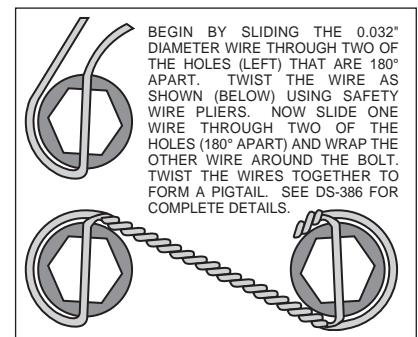

Figure 3. Safety Wire Diagram
- Position the caliper mounting bracket (1) on the spindle. **NOTE:** Be sure the heads of the caliper bracket (1) insert nuts are facing outward toward the wheel. Place one lock washer (2) on each of the three caliper bracket bolts (3). Mount bracket to the dust plate face of the spindle and align the three 3/8-16 holes in the spindle with the corresponding holes in the bracket (1). Apply red *Loctite*® 271 to all three bolt threads (3) and install. Torque bolts (3) to 260 **in-lb**.
- Install wheel studs (4) into the hub (5). Torque to 77 ft-lb. **NOTE:** There are two lug patterns of five holes each in the hub (5 x 4.50 and 5 x 4.75). Make sure of the correct hole pattern for the wheel application before installing the studs into the hub.
- Attach rotor adapter plate (8) to rotor (9) using bolts (10). Torque bolts (10) to 180 **in-lb**. Safety wire bolts (10) using standard 0.032 inch diameter stainless steel safety wire as shown in Figure 3. Please refer to Wilwood's data sheet DS-386 (available at www.wilwood.com/pdf/ds386.pdf) for complete safety wire installation instructions. **NOTE:** Dished side of adapter plate (8) should face hub (5). The mounting tabs on the rotor (9) should face toward the hub as well and line up with the holes on the adapter plate (8).
- Mount the adapter/rotor assembly (8 and 9) to the hub (5) using bolts (11). Torque bolts (11) to 22 ft-lb. Safety wire bolts (11).
- Pack the large inner bearing cone (6) with high temperature disc brake bearing grease (available from your local auto parts store) and install into the backside of the hub (5).
- Install the grease seal (7) by pressing into the backside of the hub (5).
- Pack the small outer bearing cone (12) with high temperature disc brake bearing grease and install into front of hub (5). Slide the hub assembly (5, 6, 7 and 9) with outer bearing cone (12) onto the spindle. Secure using spindle washer (13), stock adjusting nut and nut locking device. Adjust bearings per Original Equipment Manufacturer (OEM) specifications.
- Install the o-ring (15) and the dust cap (14) onto the hub (5). Friction created by the o-ring (15) on the dust cap (14) keeps it from unscrewing on its own.
- NOTE:** Please reference the caution statement at the beginning of the assembly instructions. With the bleed screws pointing up, mount the caliper (16) onto the caliper bracket (1) using lock washers (17), bolts (18) and caliper spacer (19). Finger tighten. View the rotor (9) through the top opening of the caliper (16). The rotor (9) should be aligned in the center of the caliper (16). If not, adjust the caliper (16) by using 0.032 inch thick shims (20) placed between the caliper mounting bracket (1) and the caliper spacer (19). Finger tighten and recheck alignment. Apply red *Loctite*® 271 to bolt threads (18) and torque to 30 ft-lb. Safety wire caliper bolts (18).
- Install the disc brake pads (21) and secure using cotter pin (22).